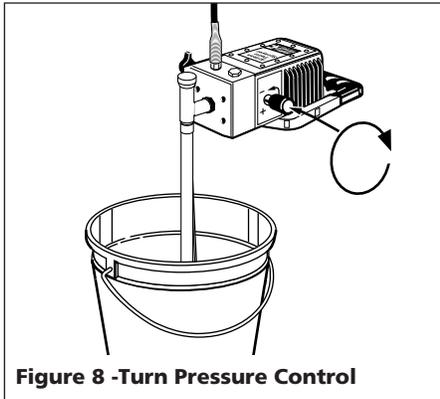

Figure 8 - Turn Pressure Control
7. Turn Pressure Control fully clockwise to High Pressure position. In a few seconds, cleaning solvent will begin to move up through the tube (See Figure 8).